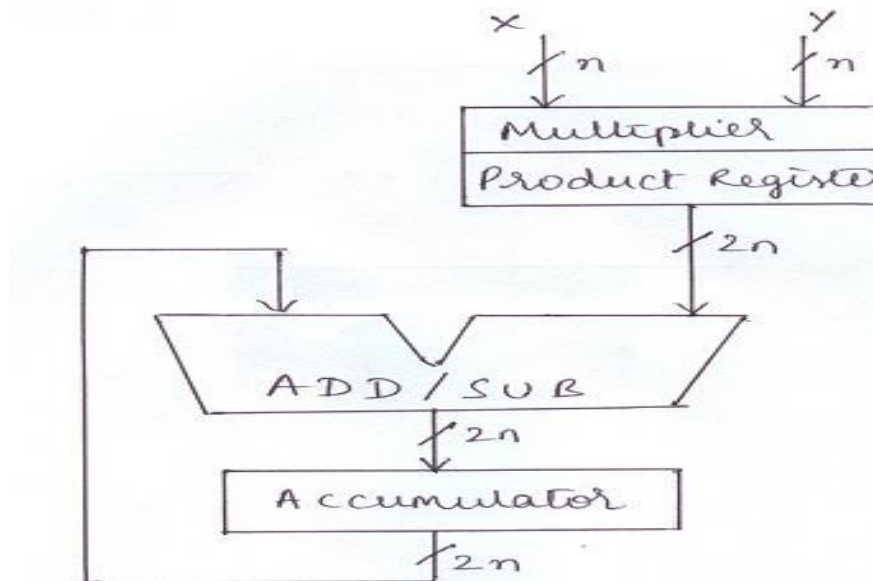

Fig 2.5 A MAC Unit
- A typical MAC unit is as shown in the figure 2.5.